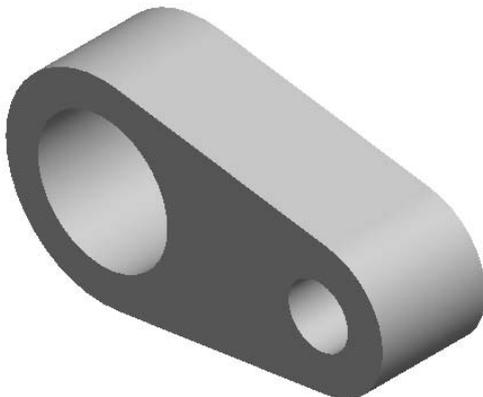
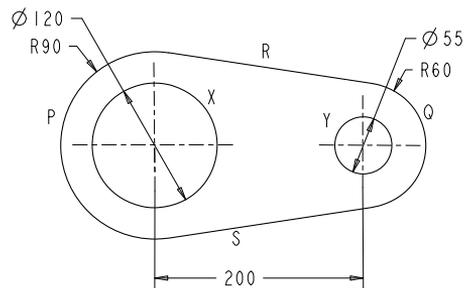

Figure 2-32 Model for Tutorial 3
Figure 2-33 Sketch of the model
In this tutorial, you will draw the sketch of the model shown in Figure 2-32. The sketch of the model is shown in Figure 2-33. For your reference, all entities in the sketch are labeled alphabetically. **(Expected time: 30 min)**
2. Select arc P and create circle X concentric to the arc. Similarly, select arc Q to create a concentric circle Y (refer to Figure 2-33).